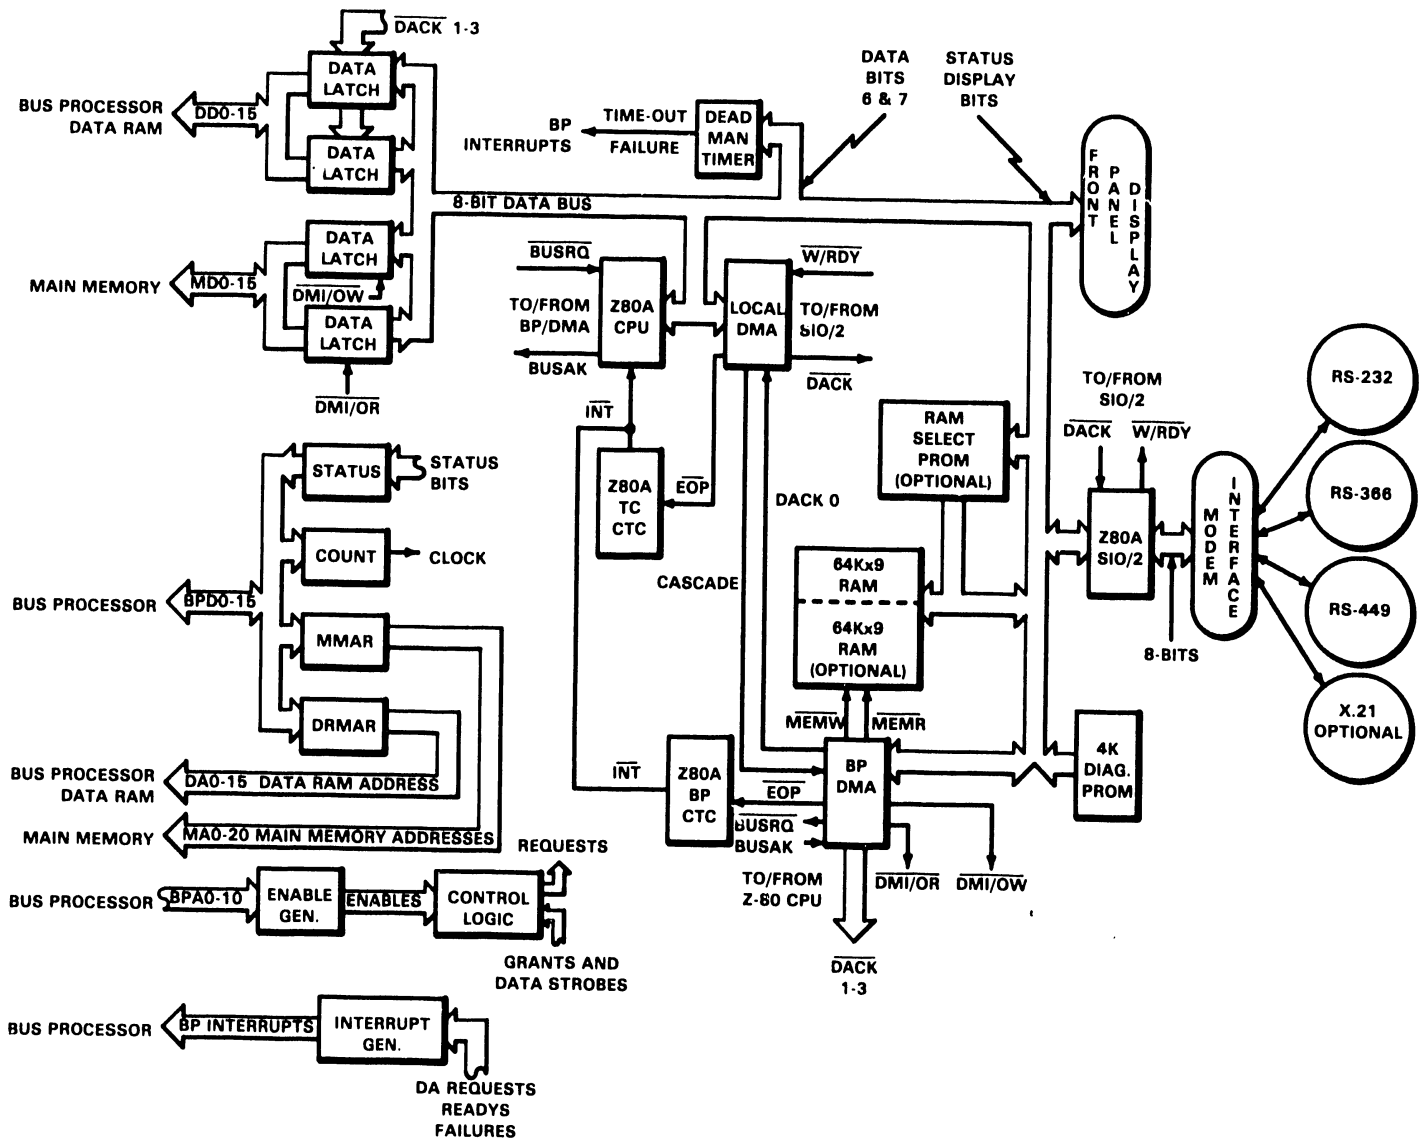

Figure 2-9. VS-25/45 Telecommunications Device Adapter Block Diagram
The 25V76-1 single port Telecommunications (TC) option (figure 2-9) and the 25V76-2 dual port TC option (figure 2-10) are intelligent DAs which support RS-232C, X.21, or RS-449, program selectable modem line interfaces at speeds up to 19.2 kilobaud per second. The line encoding may be standard NRZ (Non Return to Zero) or NRZI (Non Return to Zero-One). An RS366 interface, standard for Automatic Calling Units (ACU), allows the 25V76 to originate a communication session.